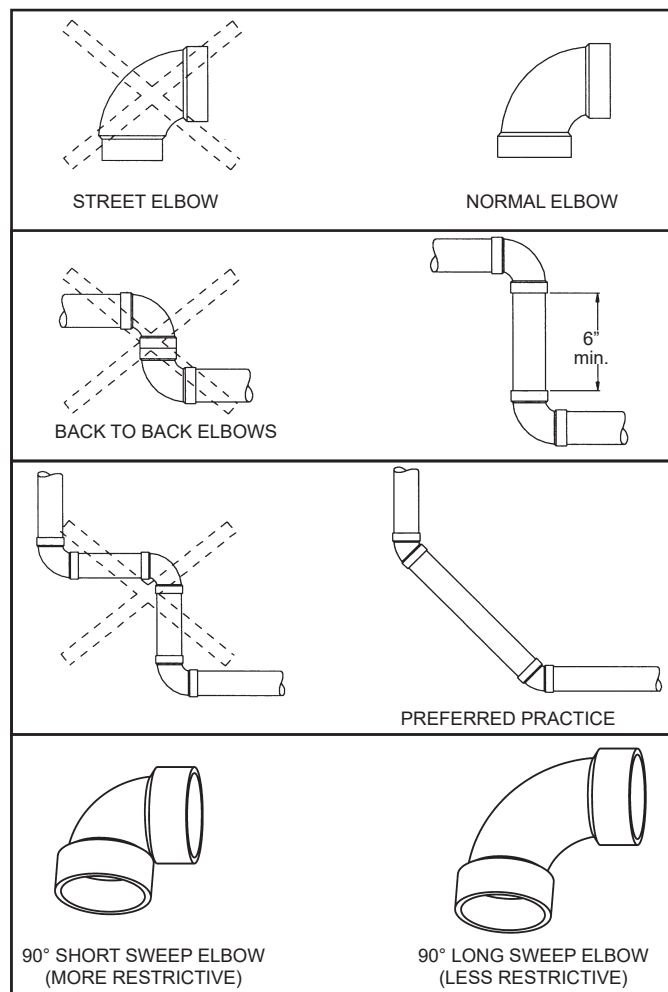

Figure 29.
**Note:** The information provided in Figure 29 is intended as a guideline for good vent installation practices only and is not intended to restrict venting options beyond those restrictions established by the current edition of the “**National Fuel Gas Code**”, ANSI Z223.1/NFPA 54 or any applicable local and state codes.
3. Avoid using 90° elbows “back to back” and do not use street elbows. Maintain a minimum 6” straight section between elbows. Closely coupled and short radius elbows reduce the venting capacity. Figure 29 shows examples of vent pipe connections.